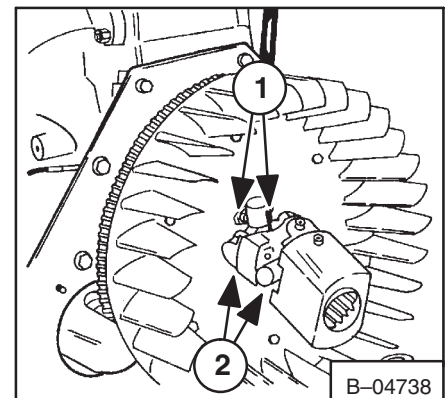

Fig. 7B–59 U-Joint
1. Remove the bolts that attach the blower fan to the flywheel (Fig. 7B–59, Item 2).